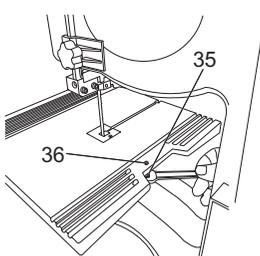
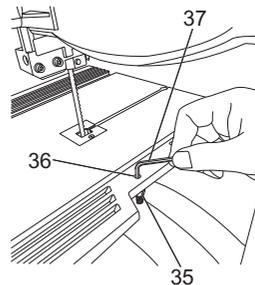

Fig. 18
Fig. 19
- > Undo the nut (35) with 10mm spanner (not supplied). (Fig. 18)
- > Adjust the hex screw (36) until it contact with the machine frame.
- > Re-tighten the nut (35). Then fasten the hex key (37).
- (Fig. 19)